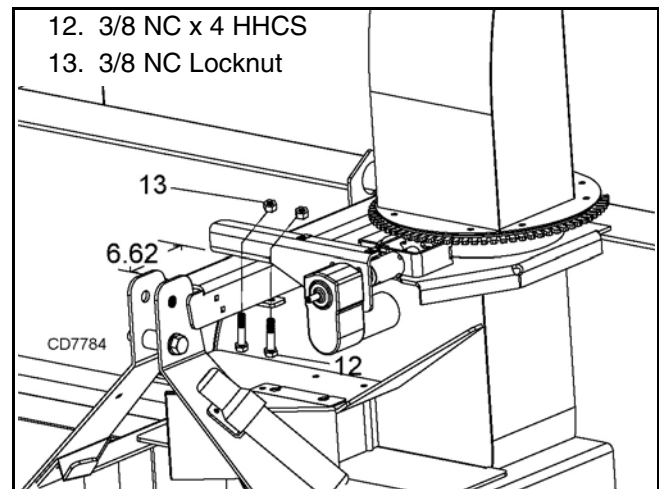

Figure 24. Motor Mount Position 6.62" from Front
1. Remove rotator sprocket from lower hitch pin. Position rotator sprocket in square opening on chute adapter with hole facing towards hitch. Install shaft (7) into rotator sprocket (36) using roll pin (6). Make sure second hole on shaft is facing towards hitch.
2. Fasten rotary actuator (1) to mounting bracket (3) using hardware from actuator.
3. Fasten mounting bracket (3) and actuator (1) to upper three point channel using cap screws (12), link (8), and nuts (13). Leave hardware loose (See Figure 24).